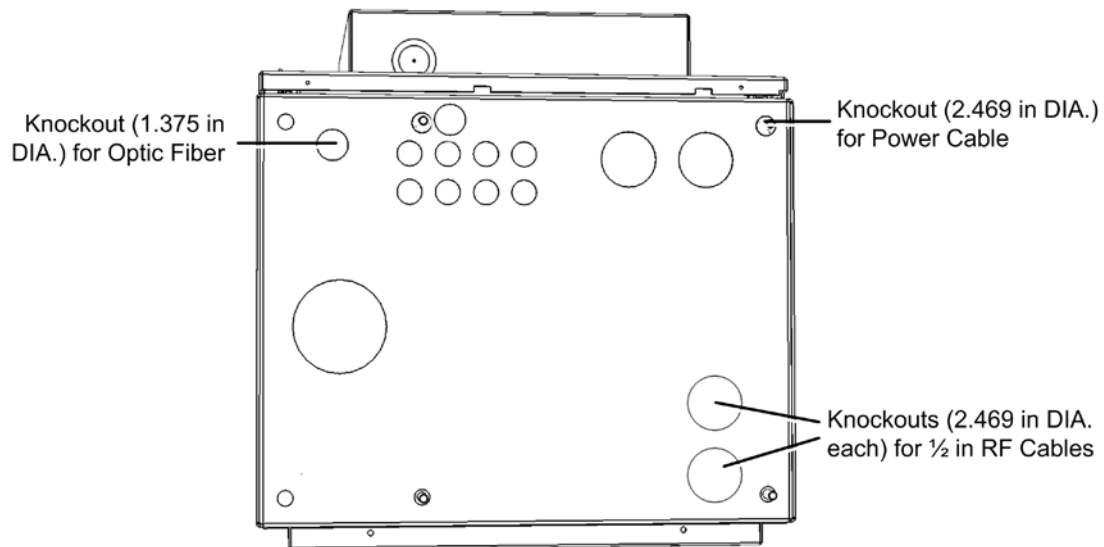
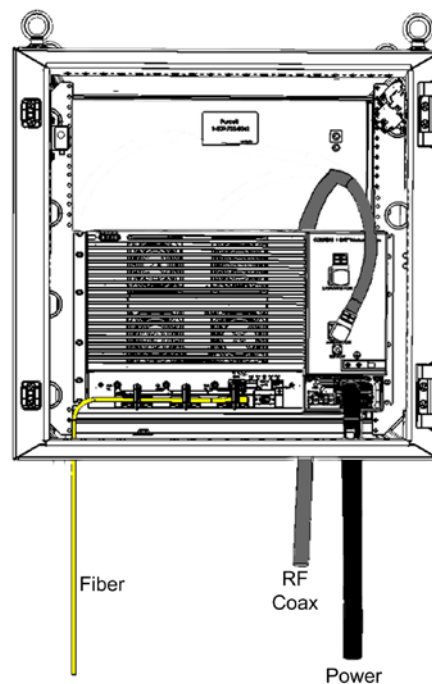

Figure 4-13. Required Knockouts Positions
Figure 4-18. Example of Routed Connection Cables
- Recommended - flexible cable conduits for routing connections cables through cabinet knockouts; refer to Figure 4-13 for relevant knockouts; Following are recommended Heyco part numbers for flexible conduits:
2. Referring to Figure 4-13 for relevant knockouts, use appropriate knockout tools to punch out knockouts for routing connection cables.
2. Connect RF antenna coax - (for both 4.3-10 Type "ANTENNA PORT" and "2.5GHz INPUT PORT") route coax cable with 90° right angle connector through its' designated knockout (see Figure 4-13) behind and above the MRU chassis and connect to the corresponding RF port. Refer to Figure 4-18.
4. Route optical fiber from ICU and power cable through designated knockouts (see Figure 4-13) and connect according to instructions in Section 4.4. Refer to Figure 4-18.